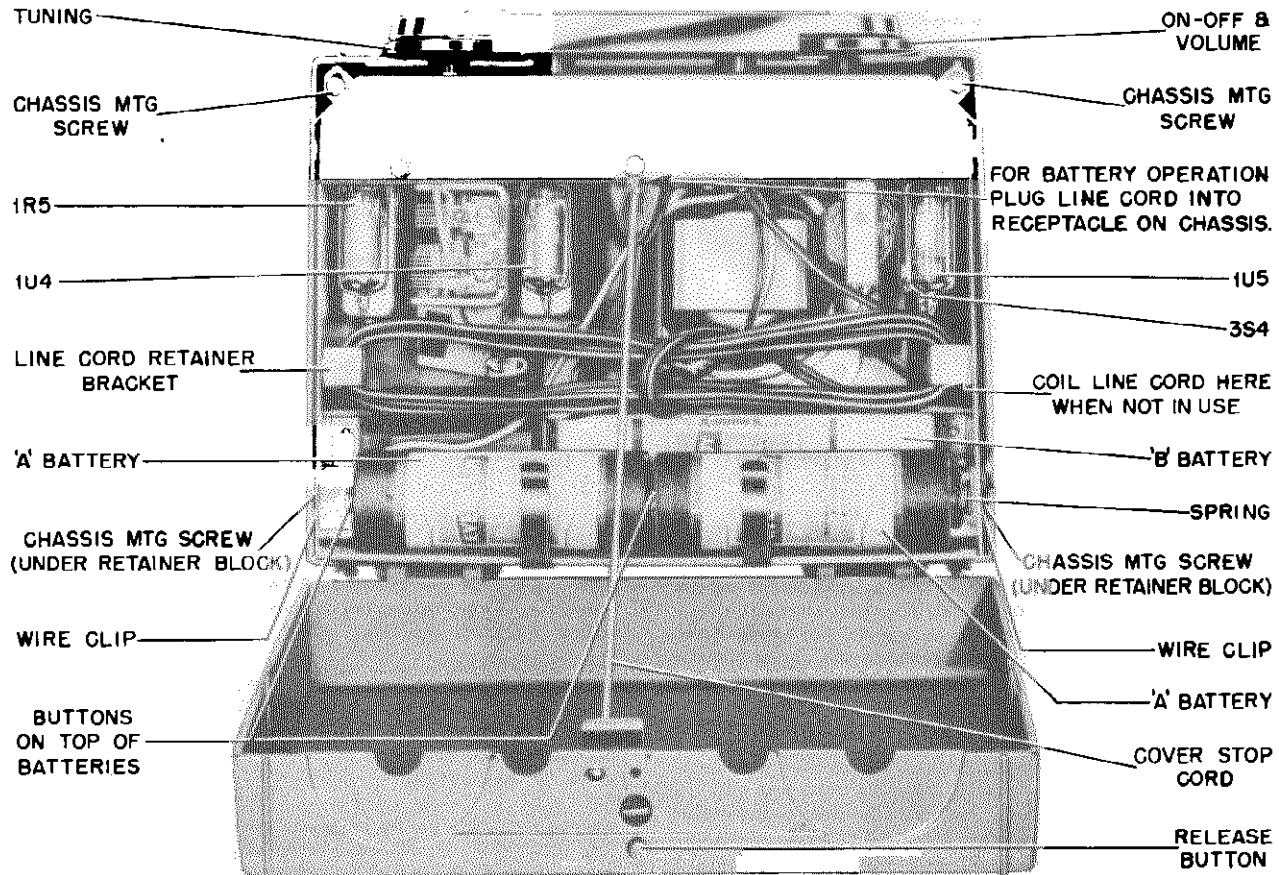

FIGURE 2. REAR VIEW OF RECEIVER
**BATTERY OPERATION.** Open the back cover and install the batteries by following the instructions on the label located inside the cover, or refer to Figure 2. Plug the power line cord into the receptacle on the chassis, or the receiver will not operate from batteries. If the radio is to be operated for a long period of time from house power lines, or is to be placed in storage, remove the batteries and keep
**BATTERY REPLACEMENT.** Replace the batteries when low volume or fuzzy tone is noticed. Complete battery replacement instructions will be found inside the back cover or refer to Figure 2. **NOTE:** The condition of the batteries will not affect operation of the receiver from the house power lines.
Refer to Figure 2 for the locations of the items mentioned below.